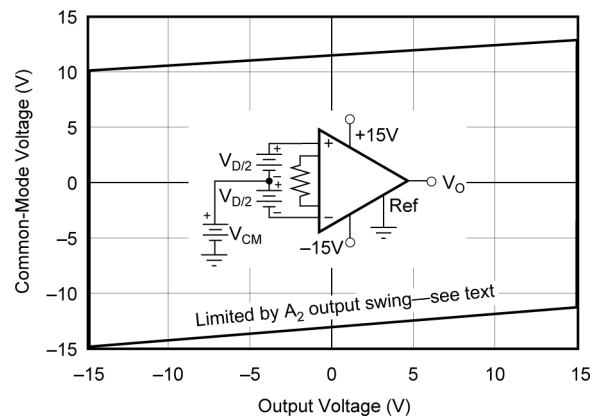
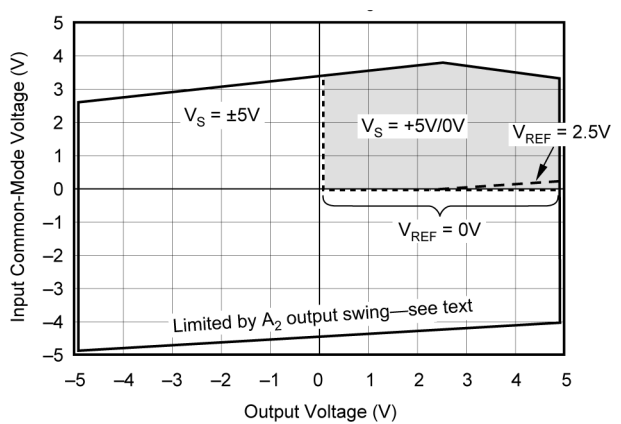

Figure 5-5. Input Common-Mode Range vs Output Voltage, $V_S = \pm 15\text{V}$, $G = 5$
Figure 5-6. Input Common-Mode Voltage vs Output Voltage, $V_S = \pm 5\text{V}$, $G = 5$
- (1) Input voltage range of the INA122 input stage. The input range depends on the common-mode voltage, differential voltage, gain, and reference voltage. See *Typical Characteristic* curves Figure 5-5 and Figure 5-6 for more information.
- (2) The values specified for $G > 5$ do not include the effects of the external gain-setting resistor, R_G .